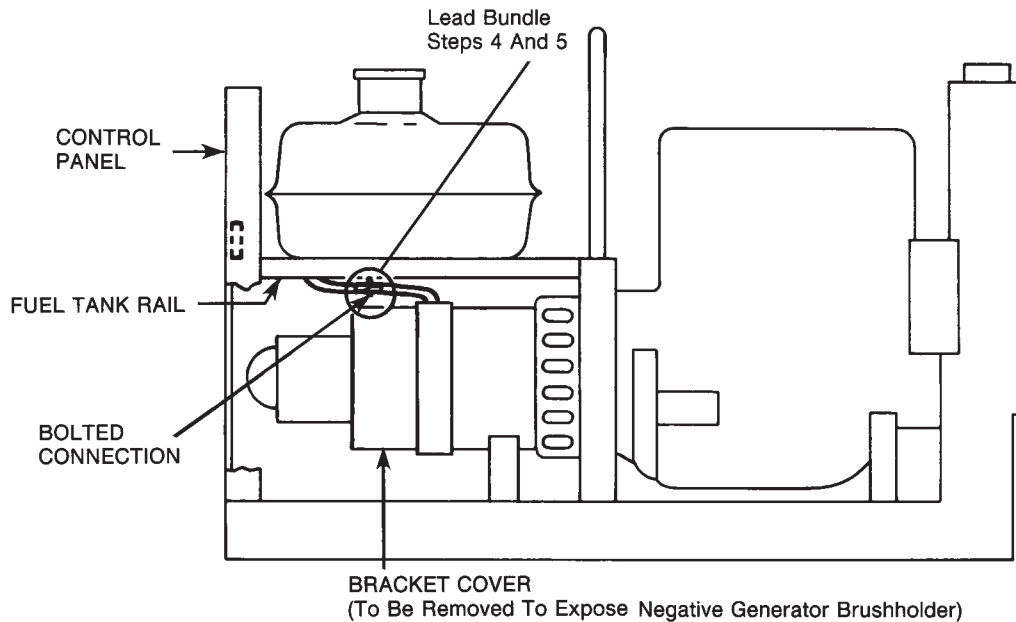

FIGURE 10 – SA-250 with Roof Assembly Removed.
4. Unbolt existing brown field lead from black exciter leads in the lead bundle and bolt it to CV Adapter lead 509 using # 10 x 1/4 bolt and nut provided. Tape up connection and unused lead terminal on lead 509 (see Figure 10).
5. Connect CV Adapter lead 610 to black exciter lead bolted connection shown in Figure 10 and insulate the connection with tape. Tape unused lead terminal on lead 610.
NOTE: FOR STEPS 9 THROUGH 11, REFER TO FIGURES 10 AND 11.
9. The negative generator brushholder, exposed when bracket cover (see Figure 10) is removed, is at the 11 o'clock position when the commutator is viewed from the control panel end of welder. Remove the 5/16 bolt which connects the two existing cables to the negative brushholder. Locate the thermostat assembly marked “250” and reconnect the two cables to the negative brushholder with *one end of the thermostat assembly bolted between the cable lugs and the brushholder.*